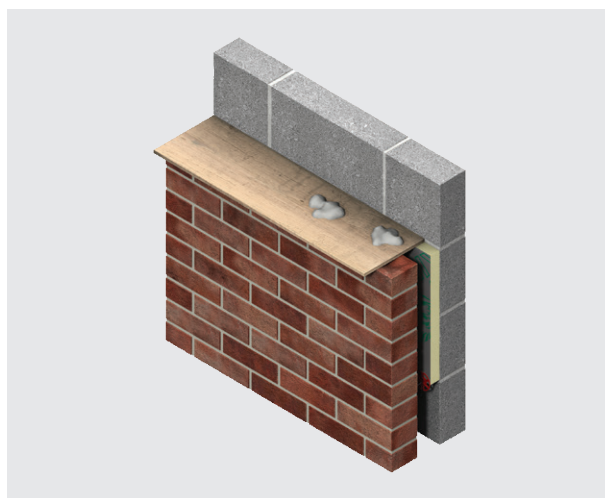

Figure 7 - Use of a cavity board to protect the cavity and insulation board top edge
- Use of a cavity batten or cavity board is recommended to protect board edges and maintain a clear cavity (see Figures 7 & 8 or refer to NSAI Agrément Certificate 03/0196).